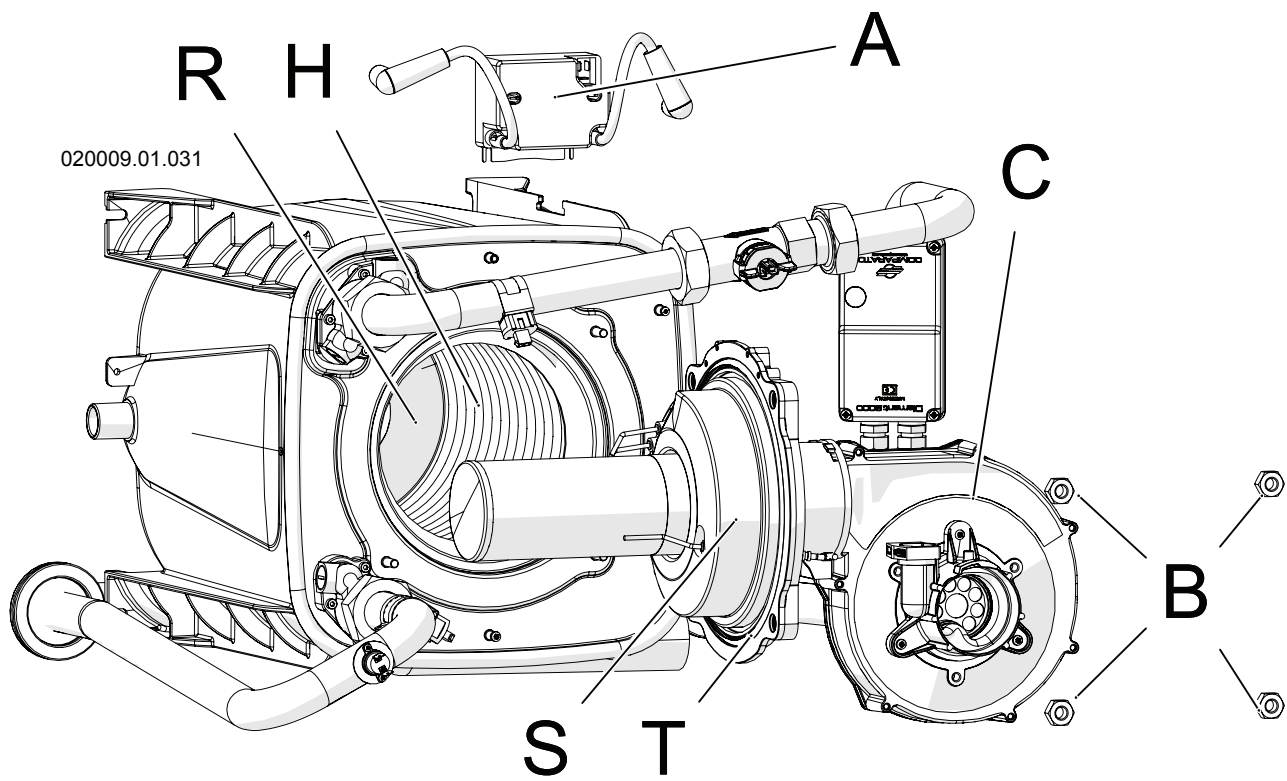

Figure 18-5 - Disassembling the burner fan unit
- 9.- Undo the four nuts "B" in Figure 18-5;
- 10.- take out the fan/burner assembly (detail "C" in Figure 18-5).
For correct cleaning of the burner and the heat exchanger body (flue gas side), proceed as follows (refer to Figure 18-5 unless otherwise advised):
WARNING! Whenever the burner or primary heat exchanger is cleaned the good order of the heat insulation devices "R" and "S" must be checked (see figure 18-5). If necessary, replace them together with gasket "T" in the burner (see figure 18-5).